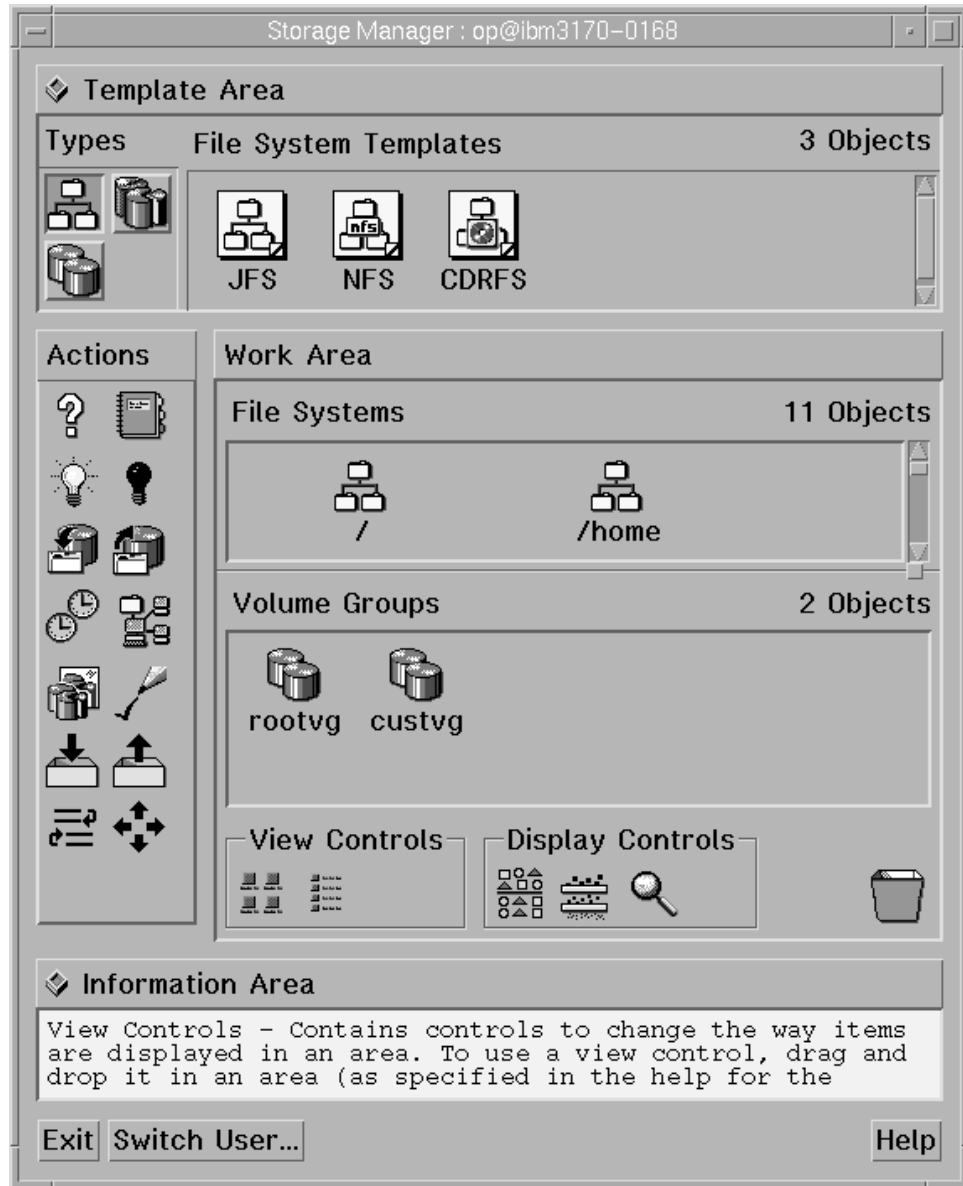

Figure 226. Storage Manager Window
- \* 3 Click the **Storage Manager** icon to open the **Storage Manager** window, as shown in Figure 226.